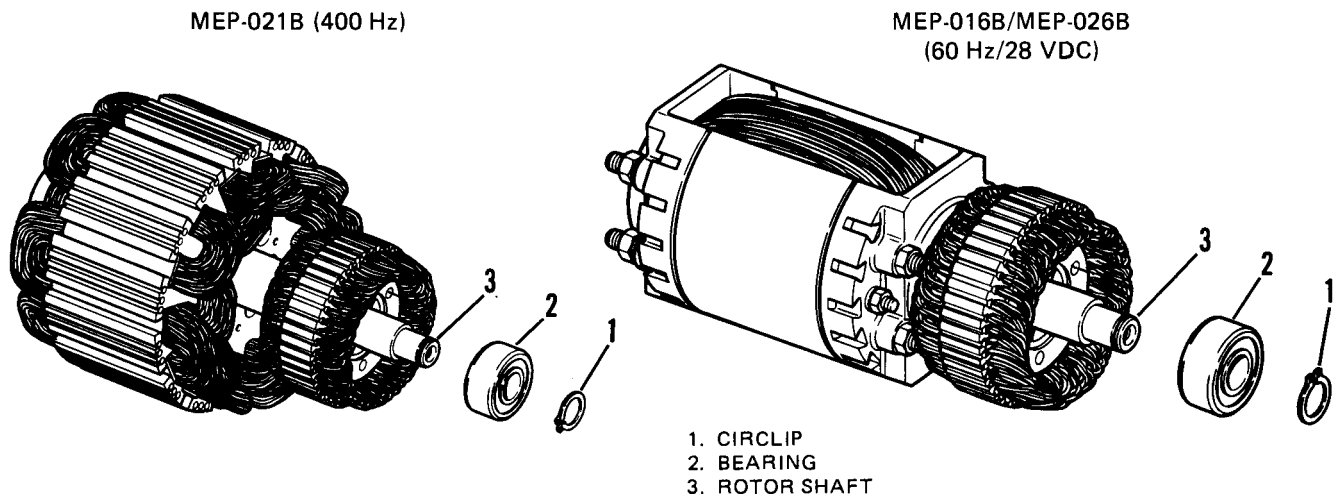

Figure 5-12. Generator Bearing.
- (1) Remove rotor, refer to paragraph 5-4.
- (2) Remove circlip (1, Figure 5-12).